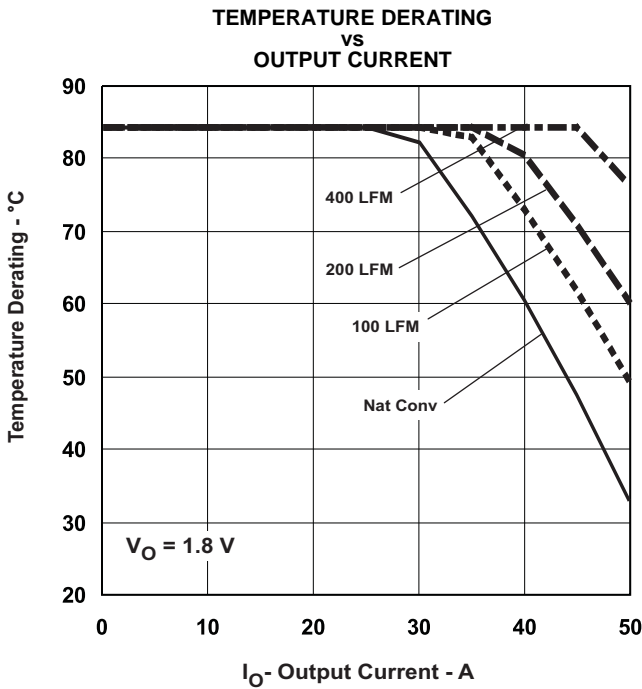
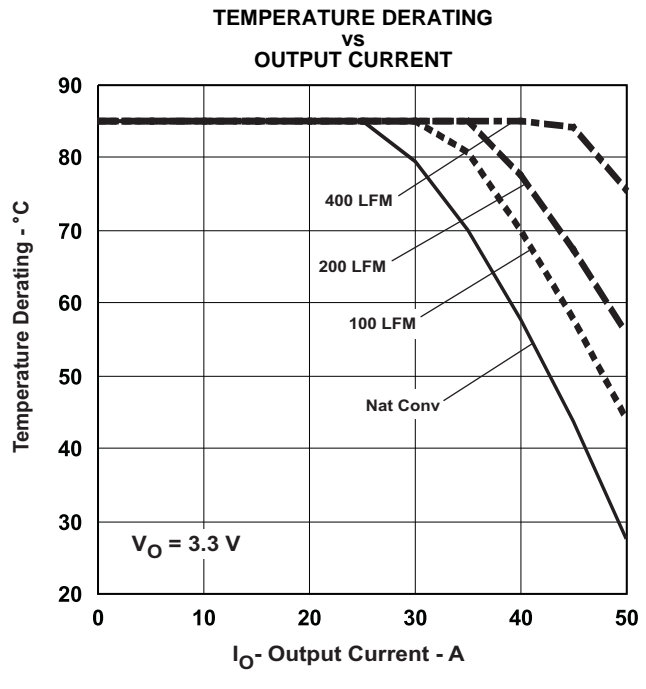

Figure 7.
Figure 8.
- (2) The temperature derating curves represent the conditions at which internal components are at or below the manufacturer's maximum operating temperatures. Derating limits apply to modules soldered directly to a 4-in. x 4-in., double-sided, 4-layer PCB with 1-oz. copper. See the mechanical specification for more information. Applies to Figure 7 and Figure 8.